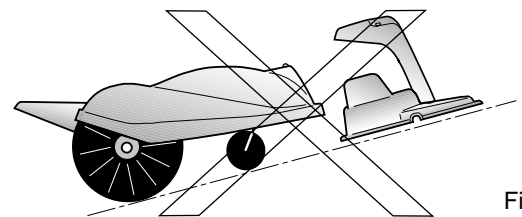

Fig.1
- The charging station must not stand on an upslope (fig. 1).